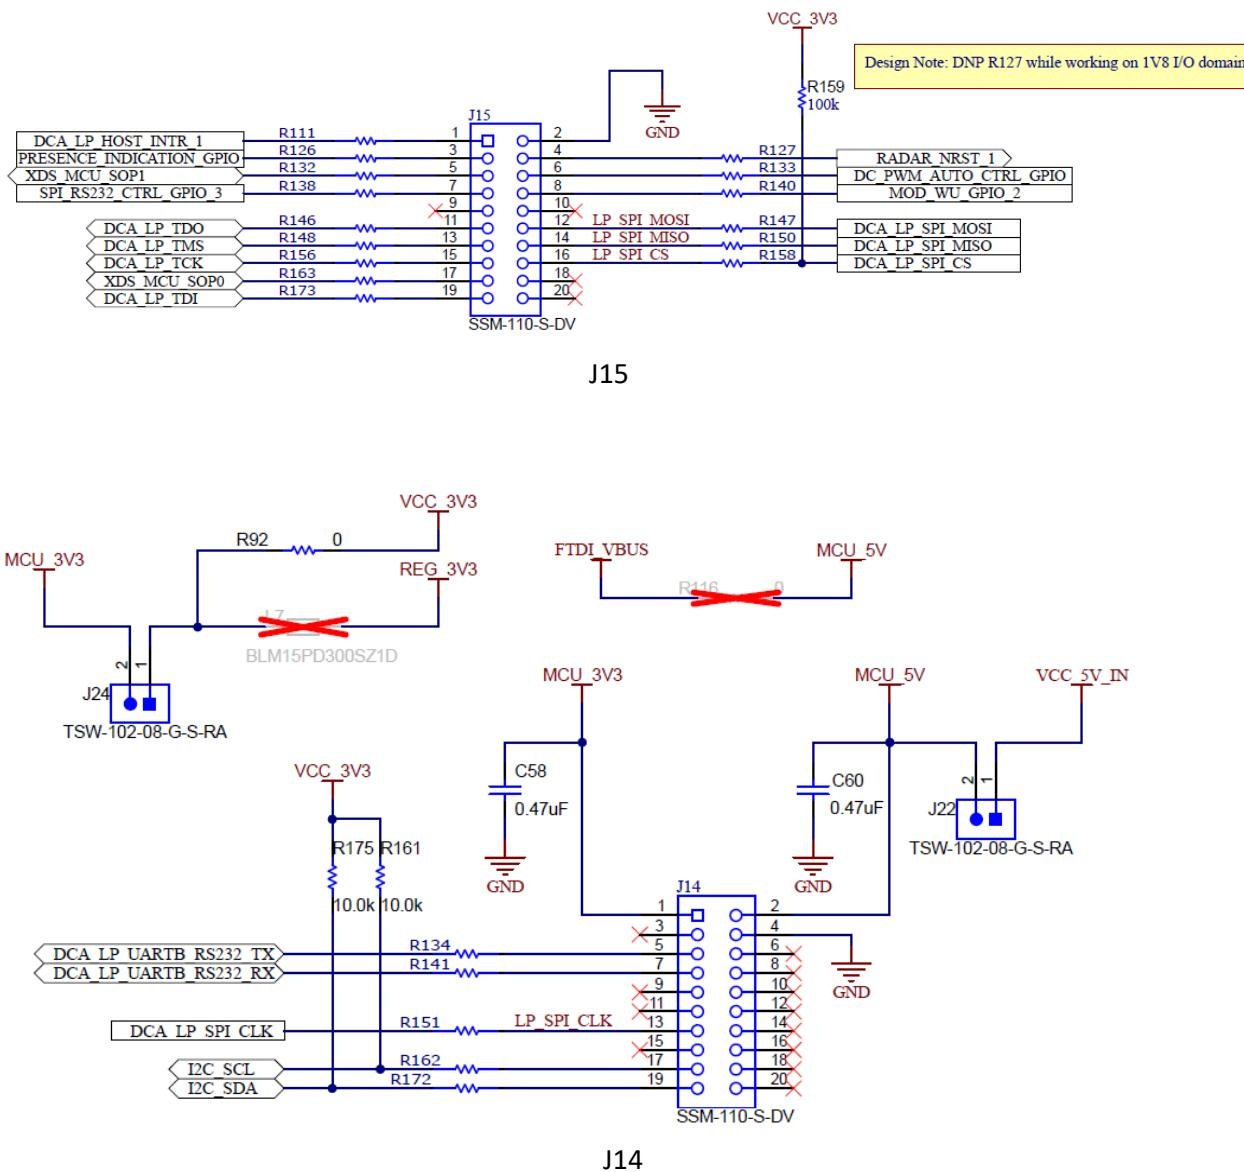

Figure 2-6. Pin diagram - to be made sure at the launch pad pin assignment
2. Make sure the pin-mapping is correct. Figure 2-6 depicts the connector details.